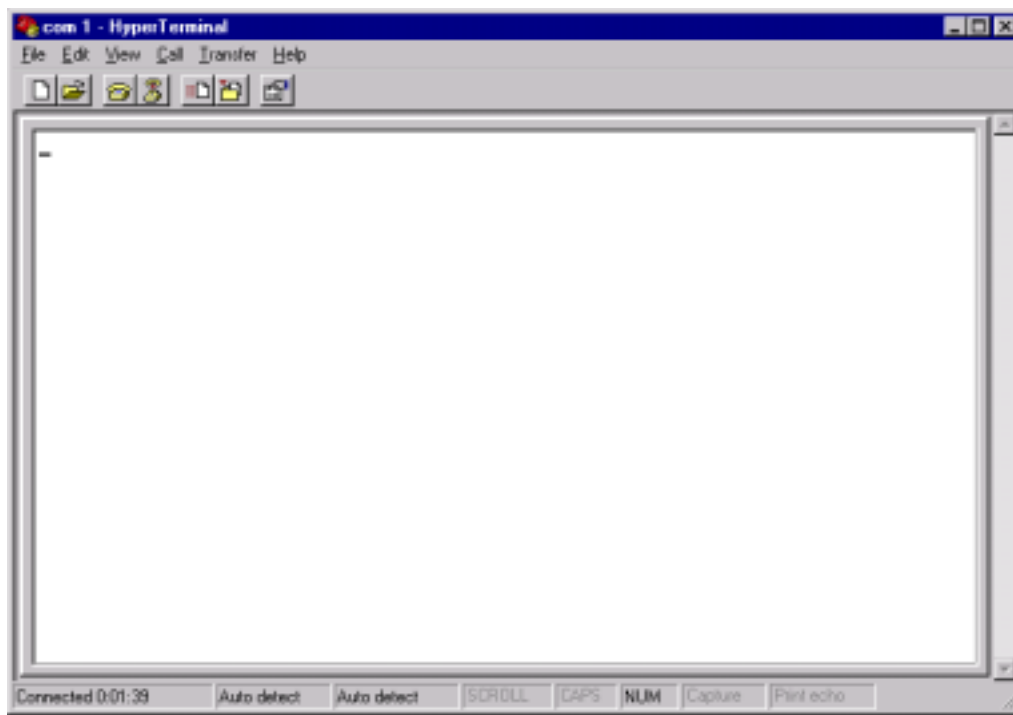

Figure 1-7
- 9) You should know have a window that looks just like figure 1-7.